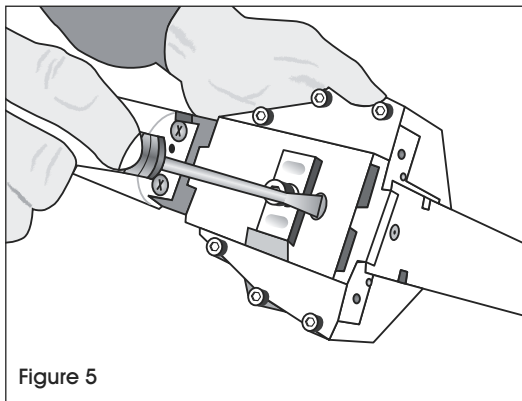

Figure 5
2. Adjust L/S screw with a screwdriver to the desired setting. (See Figure 5)